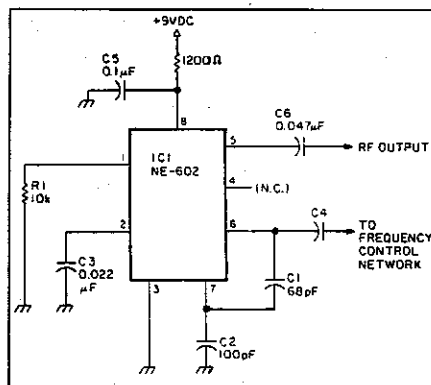
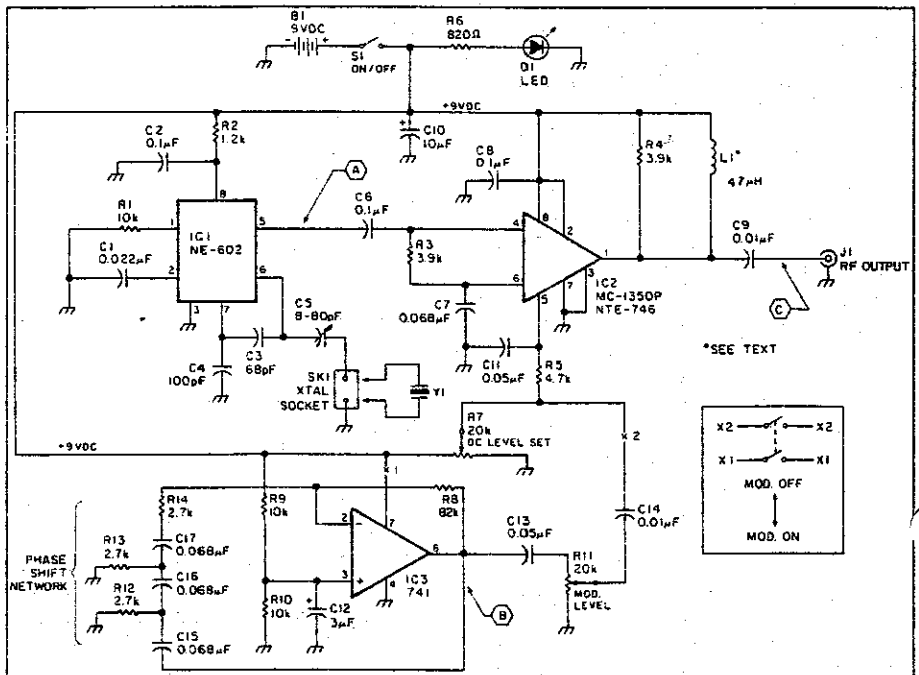

Figure 2. Generic NE-602 oscillator circuit.
Figure 4. Circuit diagram for the signal generator.
Figure 2 shows the basic configuration of the NE-602 in oscillator mode. Input-A is grounded through a 10k ohm resistor, while Input-B is bypassed to ground for RF signals through a capacitor (C3). The value of this capacitor is dependent on the operating frequency. The value shown will work nicely in the HF and low VHF range, but for lower
An example of the output signal from the circuit of Figure 2 is shown in Photo A. This signal is from a 10 MHz crystal oscillator (see below), and appeared on both pins 4 and 5. It had an amplitude of about 180 mV, which is
The rest of the oscillator circuit consists of the frequency control network (not shown in Figure 2). This network can be a piezoelectrical quartz crystal resonator, a ceramic crystal resonator, or an inductor-capacitor (LC) network. Figure 3 shows several possible variations on the frequency control network.
that it be amplitude-modulated at some frequency between 300 and 1500 Hz (the exact AF frequency was not important). The final circuit is shown in Figure 4.
where $R = R12 = R13 = R14$, and $C = C15 = C16 = C17$. With the values shown in Figure 4, the circuit oscillates at a frequency just under 400 Hz. The feedback resistor (R8)
If you want to be able to turn the modulation on and off, then insert the switch shown in the inset to Figure 4 at the points marked "X1" and "X2."
As the old proverb says, the proof of the pudding is in the eating. Photos B, C and D show oscilloscope photos of the waveforms in this circuit. The 10 MHz RF carrier is shown in Photo B (although at a different time base than Figure 2); this signal appears at point "A" in Figure 4. The audio modulating signal appears at point "B," and is shown in Photo C. Finally, the modulated RF signal from the output of IC2 (point "C") is shown in Photo D.
Photo A. Oscilloscope photo of the waveform from the output signal at pin no. 5 (see the circuit shown in Figure 2).